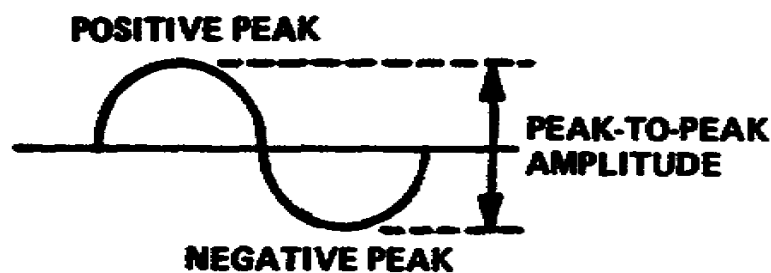

Figure 1-11. Peak-to-peak amplitude
(2) Second, measure the height of a wave from its positive peak all the way to its negative peak. This type of wave measurement is peak-to-peak amplitude (fig 1-11).